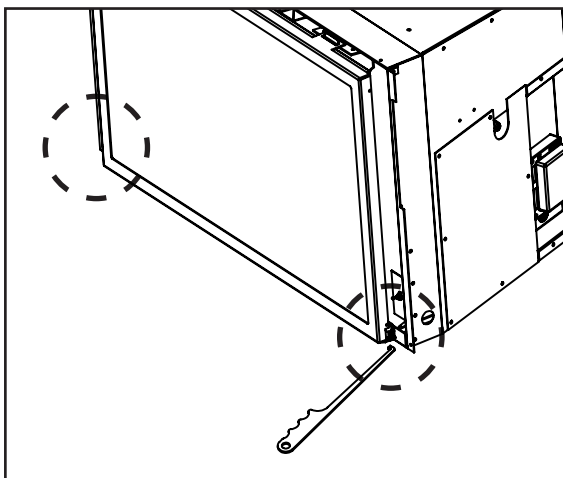
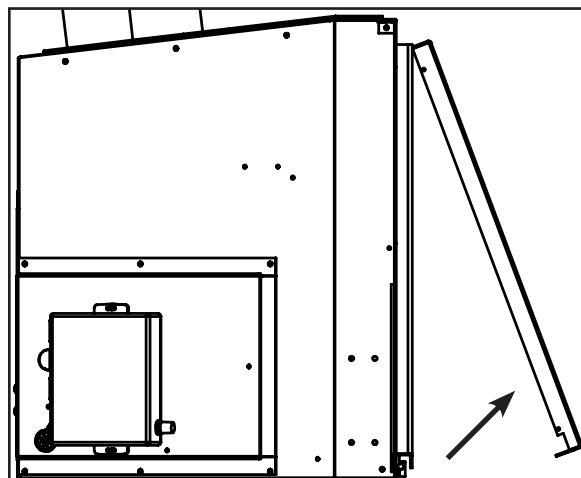

Figure 7: Door Release.
Figure 8: Door Removal.
Remove the glass door by placing the hooked end of the door release tool in the hole on the door latch mechanism (see Figure 7) and pulling the latch out then up. When the two (2) latches have been released, tilt the bottom of the door forward and then lift up to unhook the top door tabs (see Figure 8.)